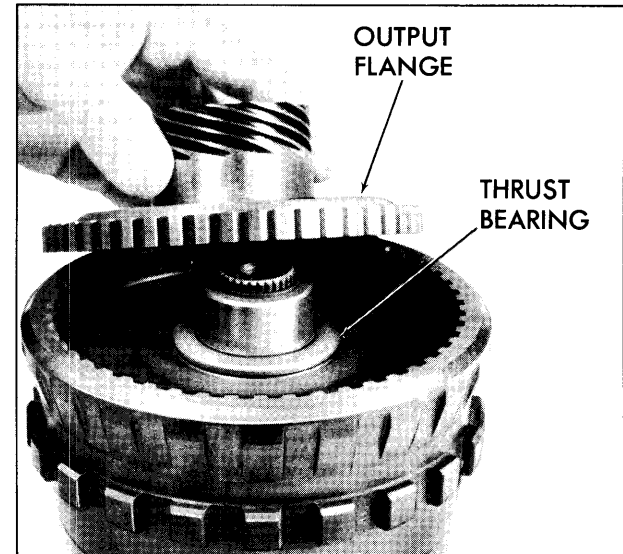

Fig. 7E-119 Installing Output Flange
4. Install the output carrier over the mainshaft so that the pinions mesh with the rear internal gear. (Fig. 7E-117)